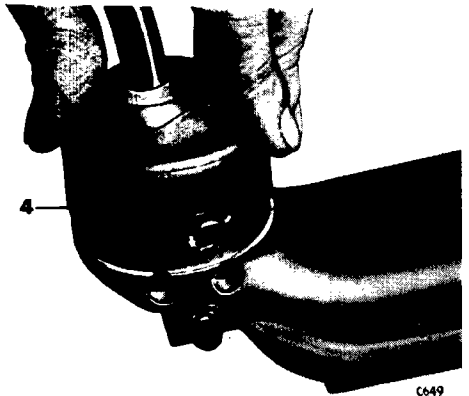

Fig. 10.
Dismantle the selector shaft and fork assemblies by driving out the Welch plugs (18) with a $\frac{1}{8}$ " (3.17 mm.) dia. pin punch as shown in Fig. 10 ensuring that the selector shafts are clear.